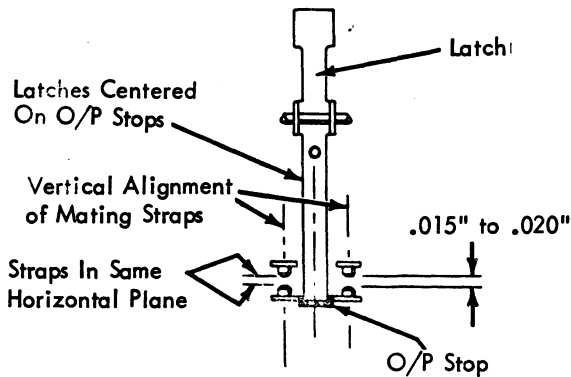
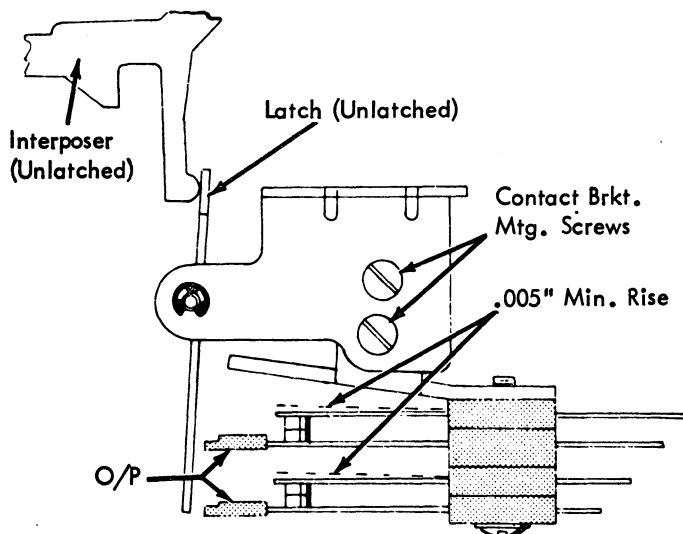

FIGURE 174. Contact Air Gap
FIGURE 175. N/O Contact Rise
1. Contact Strap Position (Fig. 174) - With the contacts latched, position the straps under the two mounting screws for the following conditions:
2. Contact Air Gap (Fig. 174) - Rotate the contact mounting bracket under its four screws for $.015''$ to $.020''$ contact air gap - see Fig. 175 for mounting screws.
3. Normally Open Contact Rise (Fig. 175) - With the contacts unlatched, form the N/O straps for $.005''$ minimum rise.